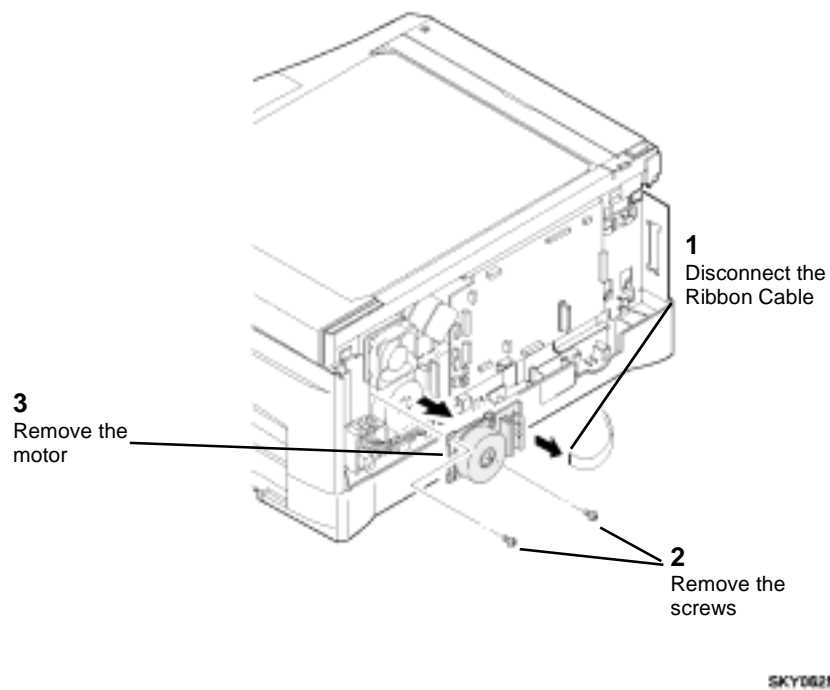

Figure 1 Removing the Main Drive Motor
3. (Figure 1): Remove the Main Drive Motor.